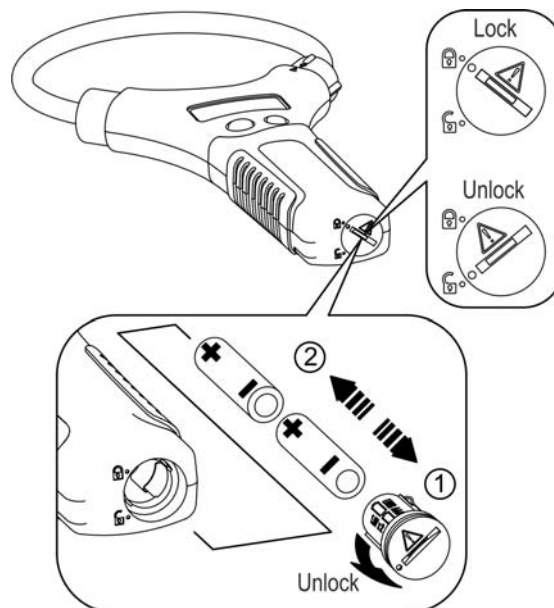

Fig. 4: Batteries replacement
2. Rotate the fixing screw of the battery cover from the "🔒" to the "🔓" position, remove the cover and extract the batteries (see Fig. 4)
3. Fit two new batteries (see § 6.1.3) and pay attention to correct polarity (see Fig. 4)